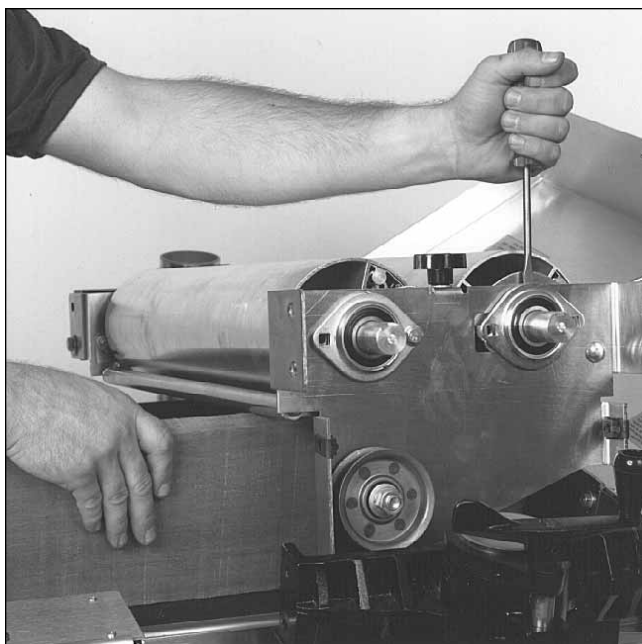

Fig. 41. Removing rear drum bearing.
1. Begin by removing the outer half of the bearing flange. Loosen the set screws in the bearing collars and remove the bearing (Fig. 41).